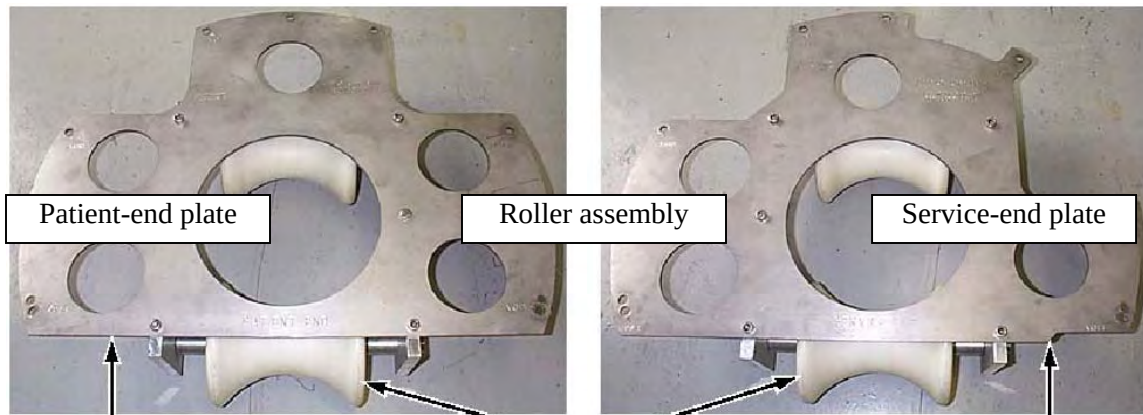

FIGURE 37 – Roller assembly and Mounting Plate
- G. Obtain the two Tube Guide Roller Assemblies (5308402) and XRMB Mounting Plates (5161983, 5161985) from the Gradient Coil Insertion and Lift Kit's shipping crate. Make sure the Tube Guide Roller Assemblies are attached to the XRMB Mounting (**FIG 37**).